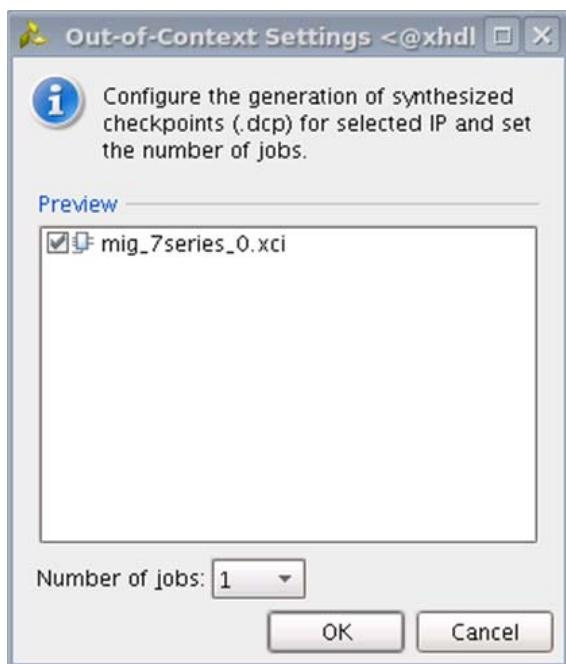

Figure 3-26: Out-of-Context Settings Window
2. Click **Out-of-Context Settings** to configure generation of synthesized checkpoints. To enable the **Out-of-Context** flow, enable the check box. To disable the **Out-of-Context** flow, disable the check box. The default option is "enable" as shown in Figure 3-26.